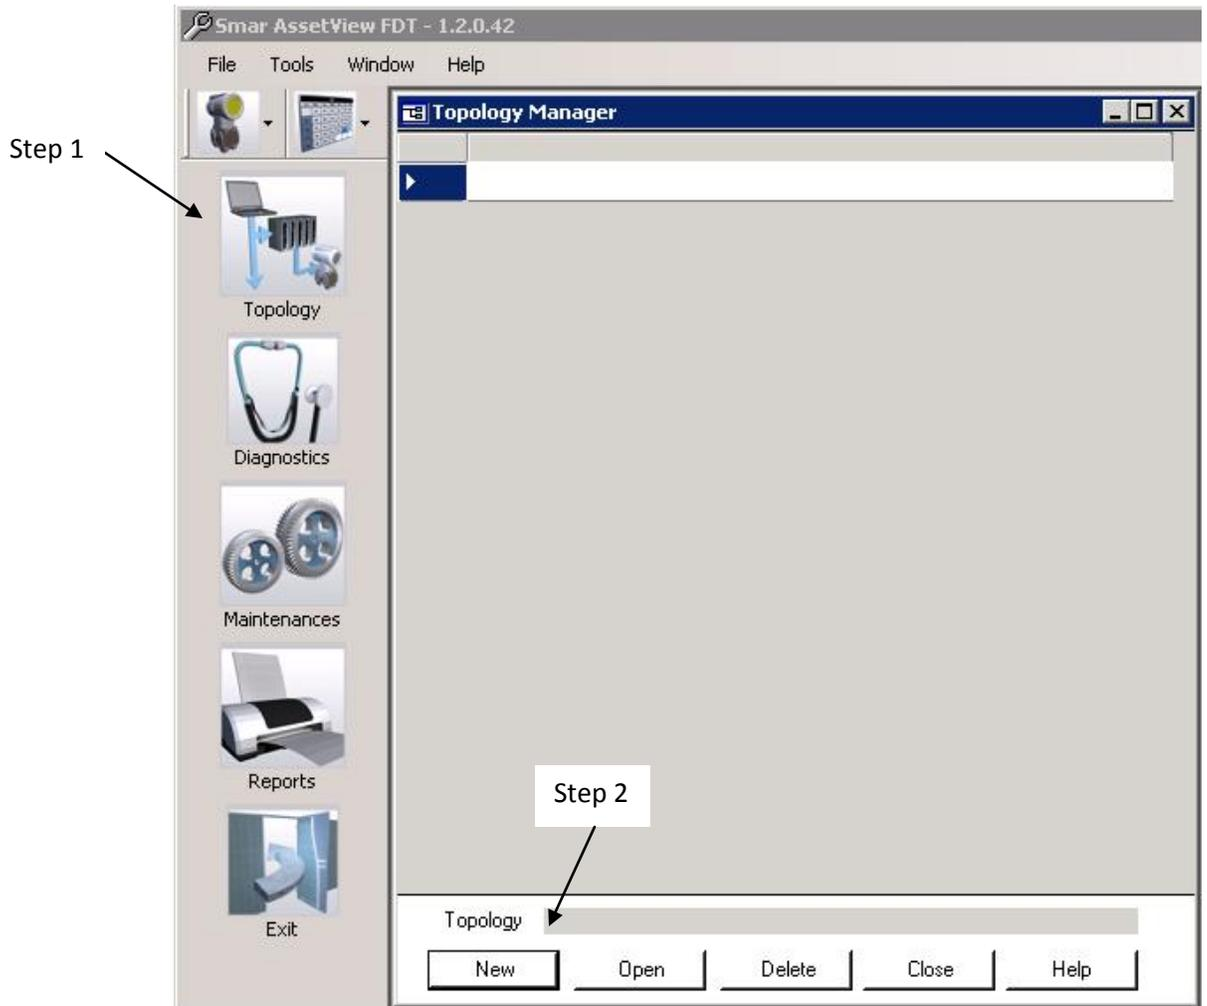

Figure 2.2 – Configuration of AssetView STANDALONE software
- 1) After initializing AssetView SA, choose "Topology" option (step 1) to start the setup. The "Topology Management" will be prompted, the user shall select in "New" option (step 2) to create a topology. This screen can be seen in Figure 2.2.